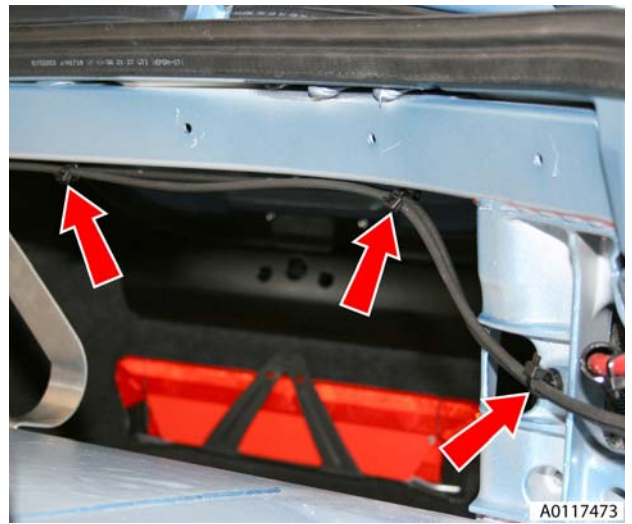

Figure 11
14. Remove harness/pipe retaining clips (x3) LH/RH (see Figure 11).